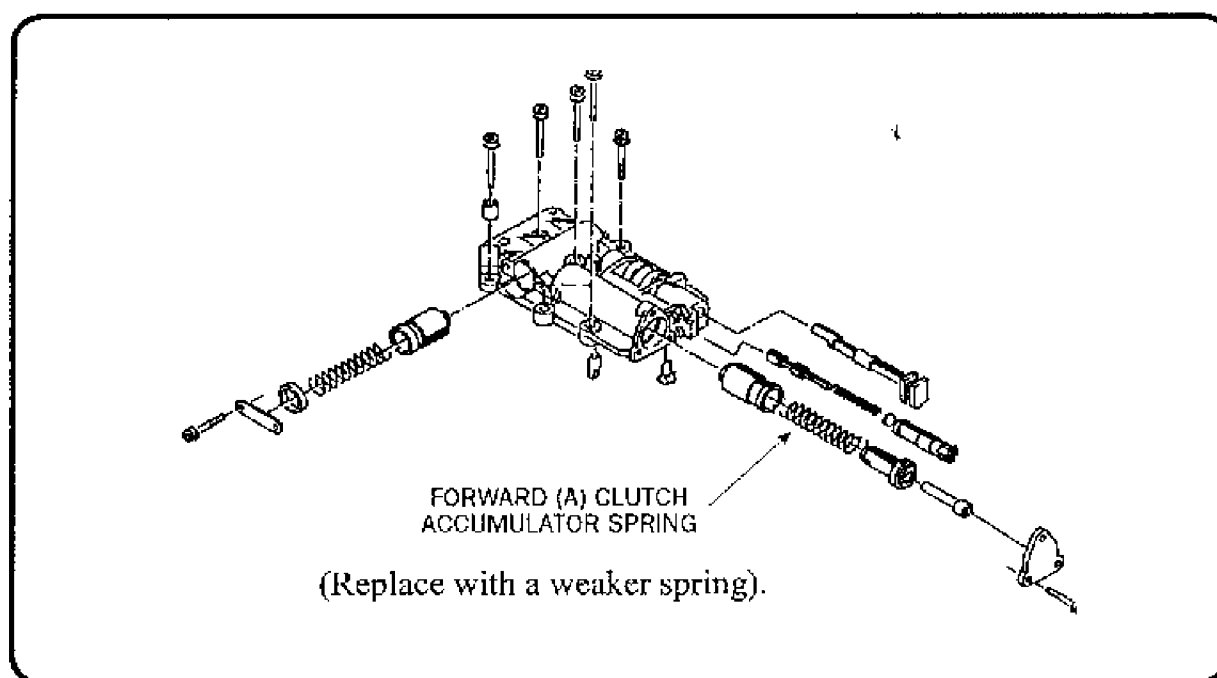

Figure 3.
- CAUSE:** Because the Forward (A) clutch must be re-applied on the 4-3 downshift, the cause may be that the Forward clutch accumulator orifice may be too large or new clutch material differences may affect the rate of clutch application, causing a harsh feel.
- CORRECTION:** The Forward (A) clutch accumulator orifice has been reduced in later valve bodies. To determine the update level of the valve body, refer to the first three numbers stamped on the filter cover. **See Figure 1.** If the valve body is the early style with either the 026 or 032 filter cover, check the valve body orifice (A) and reduce it as necessary to .047 in. **See Figure 2.** If this does not correct the problem, or if the valve body filter cover is 052, 068, or higher, then it will be necessary to install a lighter spring into the Forward (A) clutch accumulator. The pressure regulator spring from a 350 valve body will fit nicely and soften the clutch as it reapplies during a coast downshift. **See Figure 3** for the location of the Forward (A) clutch accumulator.